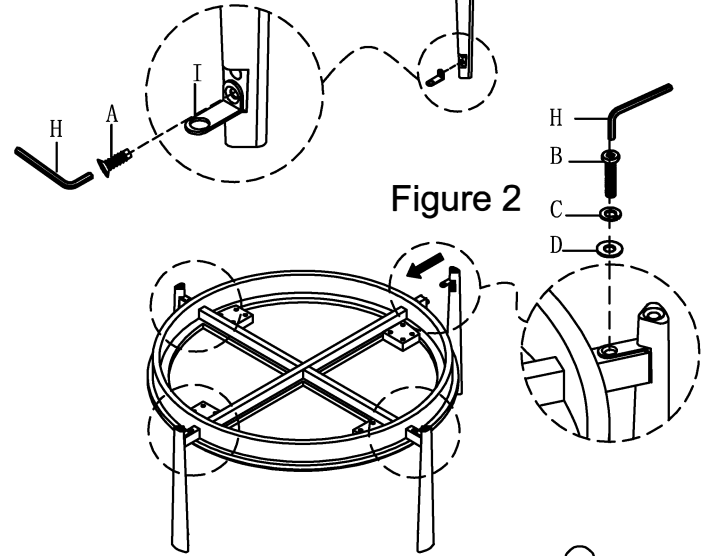

Figure 2
2. Attach table leg to bottom panel, tighten Bolt (B), Lock Washer (C) and Flat Washer (D) by using Allen Wrench (H) as shown in Figure 2.